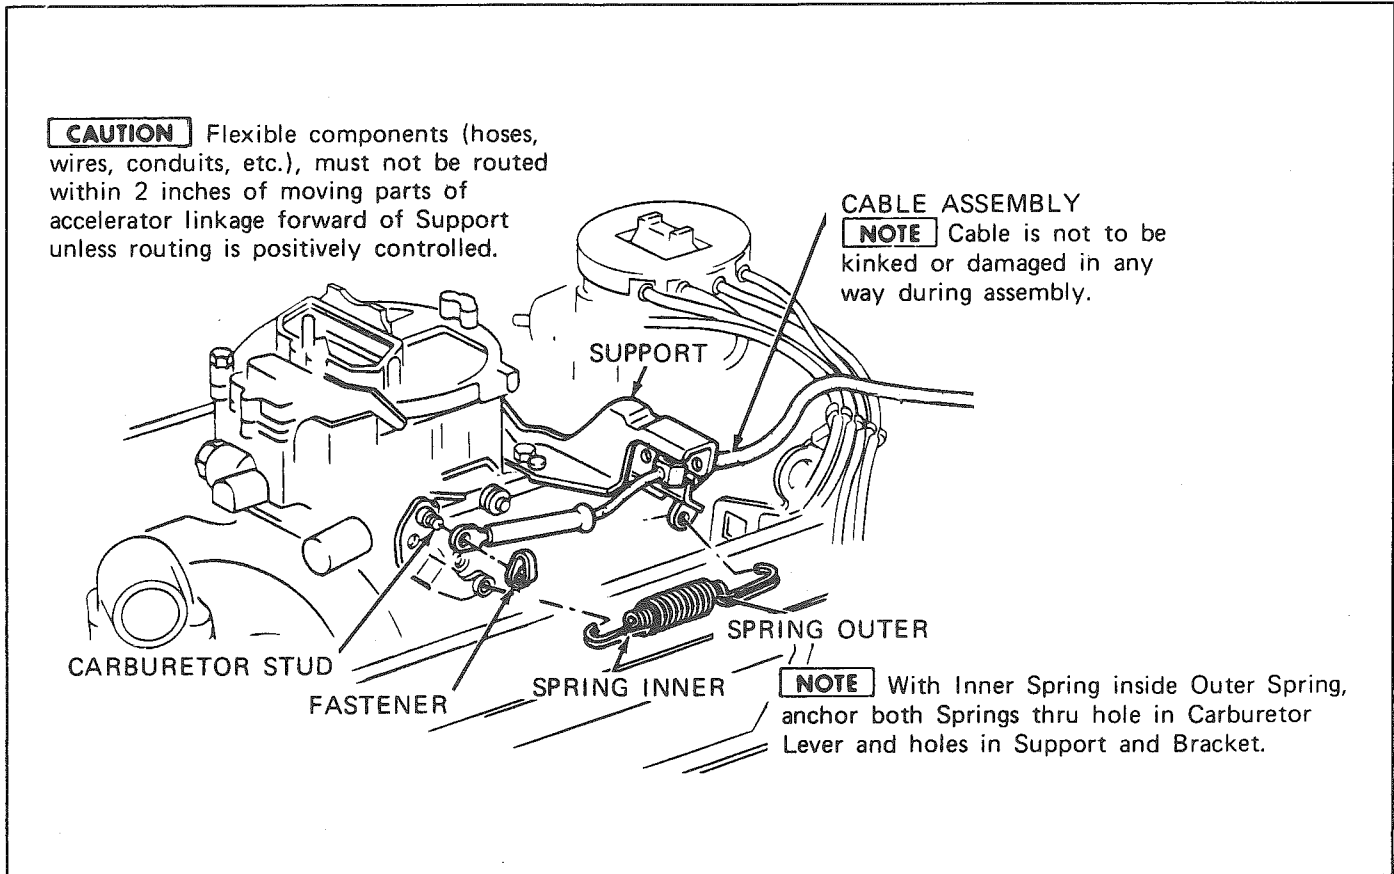

Figure 41 — Accelerator Controls
**ACCELERATOR CONTROL CABLE** — Refer to figure 41 for removal and installation of accelerator control cable.